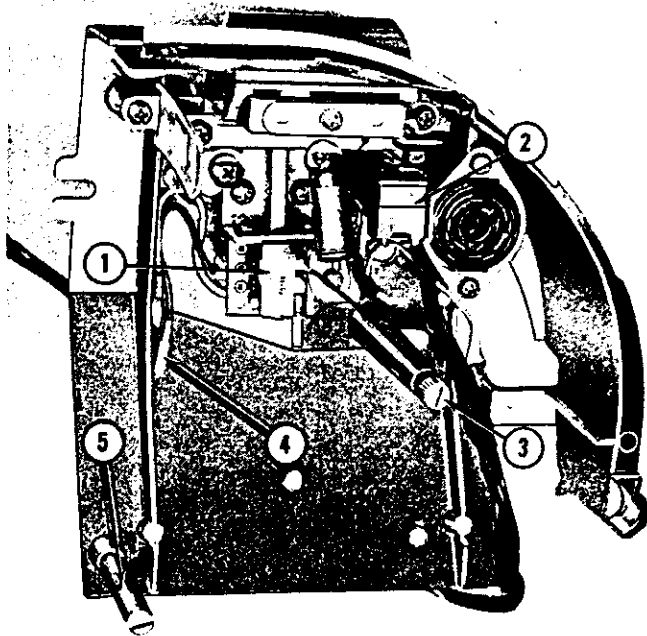

Fig. 21. CHEEK CASTING AND RESET SWITCH ASSEMBLY
(2) Positioning and timing of the electrical contacts is governed by the mounting of the contact plate assembly (Item 3). The contact plate is provided with elongated mounting holes and is set by means of the mounting screws (Item 9).
h. Cheek Casting Assemblies. (Figs. 21 and 22)
(1) The left and right cheek casting assemblies fasten firmly to the cabinet and upper grille plate to provide mountings for the selector switch assembly, the program holder, the program selectors, and the upper pilaster castings.
(2) The left hand cheek casting (Fig. 21) has mounted within the casting, the single pole double throw micro switch (Item 2) for control of the left program selector, the reset switch (Item 1) for the electric selector circuit, the five prong socket for connecting the program selector when held in place by the thumb screws (Items 3 and 5) and connectors (Item 4) for joining with the selector switch assembly.
scavenger linkage of the slug rejector. Adjustment features are provided in this assembly. The switching arrangement for the program selectors is provided with a stop bracket and retracting spring shown at Item 6. The third thumb screw for holding the program selector to the cheek casting is indicated at Item 2 as it was not visible in Figure 21.